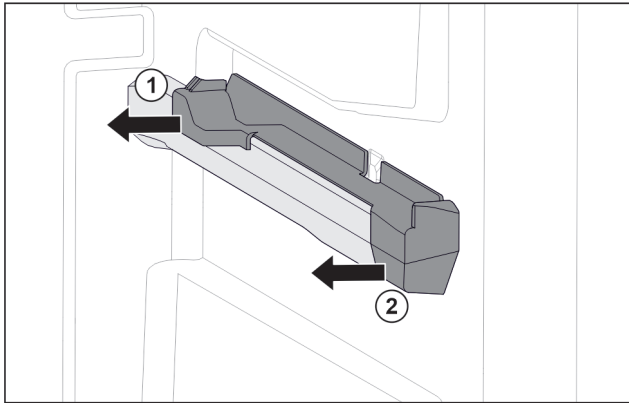

Fig. 149 Attachment on the right moulded rib
- ▶ Pull off attachment at the back sideways. Fig. 149 (1)
- ▶ Pull off attachment at the front sideways. Fig. 149 (2)